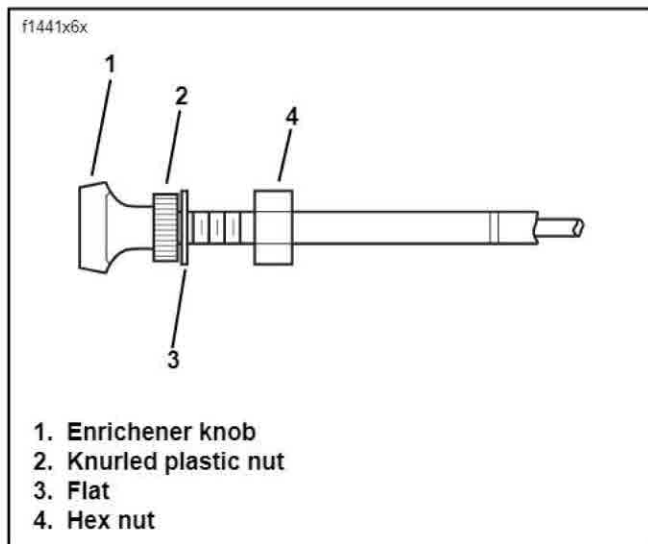

Figure 2. Enrichener Control
3. See Figure 2. Detach enrichener knob (1) from bracket above horn by loosening the hex nut (4) at the backside of mounting bracket.